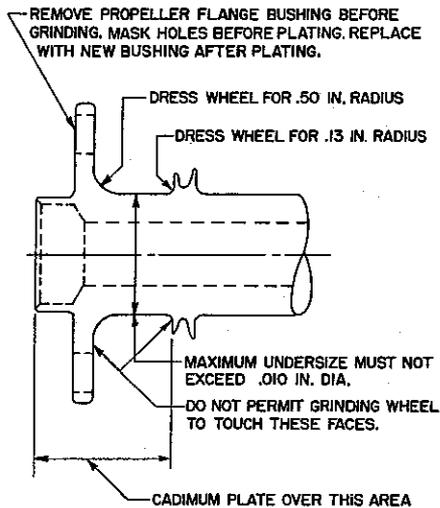

Figure 7-13. Reconditioning Crankshaft Oil Seal Surface
8. Cadmium plate (in accordance with AMS 2400) the flange and oil seal area of the crankshaft as indicated in figure 7-13. Do not plate beyond the 0.13 inch radius.